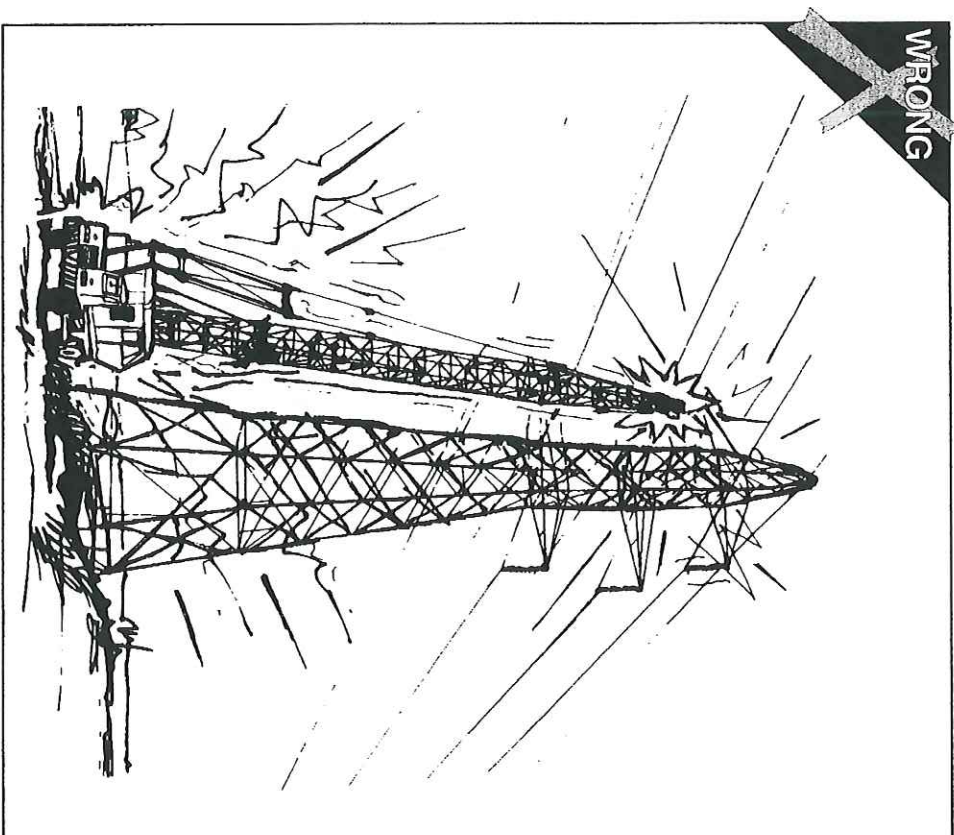

FIG. 35
- **Use a signal person.** The sole responsibility of the signal person is to observe, from the best vantage point, the approach of any part of the crane or load to the power line. The signal person must be in direct communication with the operator, and the operator must pay close attention to the signals. (FIG. 35)